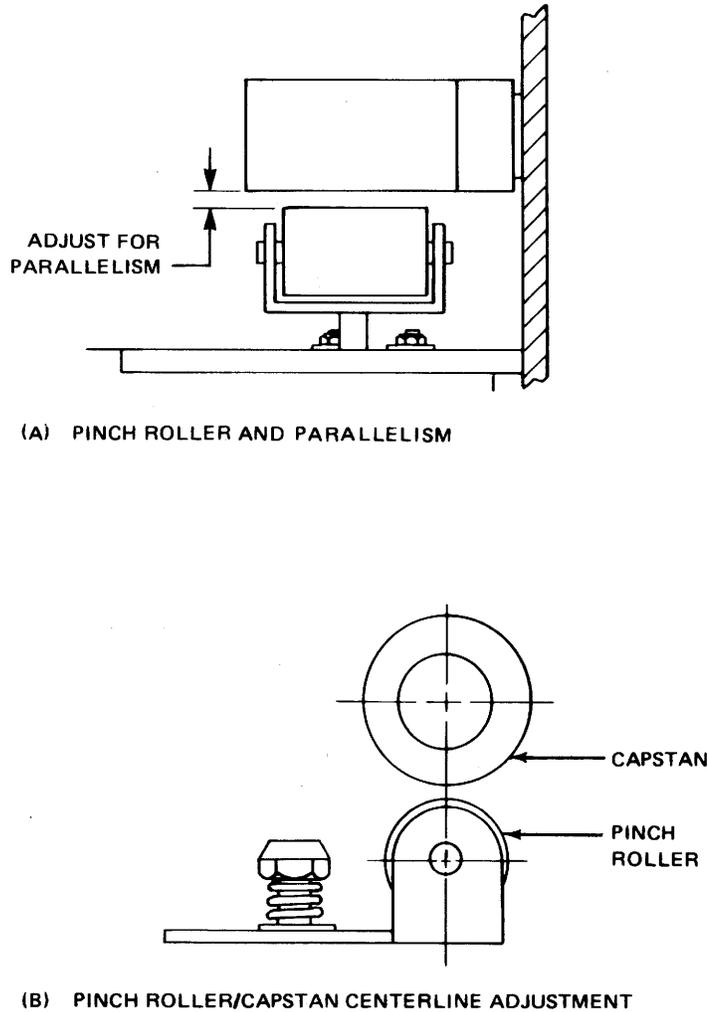

Figure 6-16. Pinch Roller/Capstan Alignment.
3. Align reader pinch roller vertically (see figure 6-16).
d. Rock pinch roller assembly (see figure 6-16) on front and back of bracket to ensure that the assembly is properly seated on the solenoid shaft.